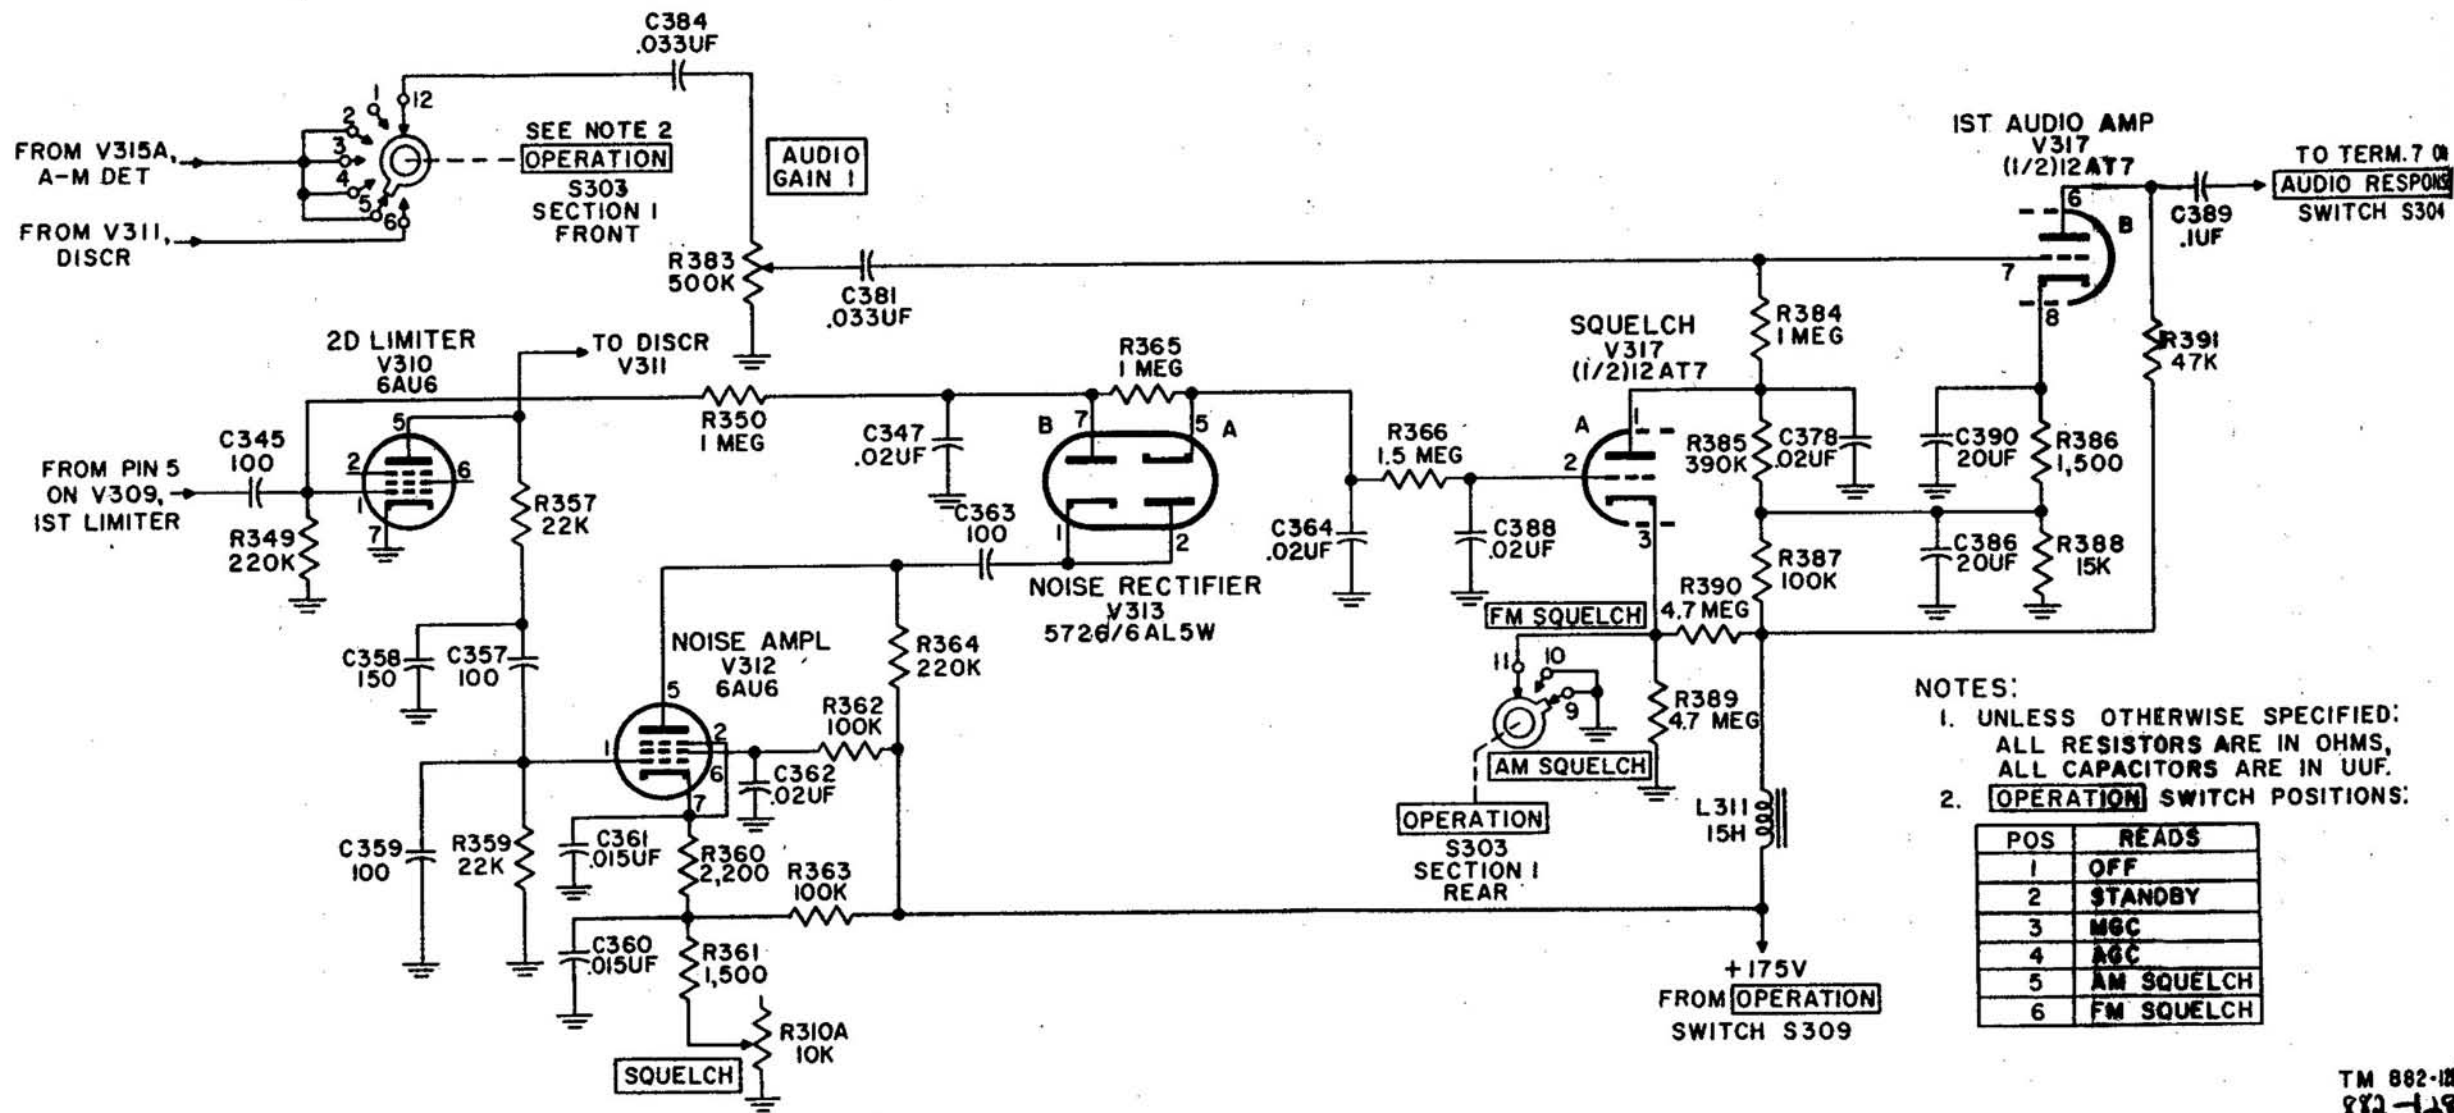

Figure 51. Squelch and first audio amplifier circuits.
(figs. 51 and 52)
*a. General (fig. 51).* The squelch circuit consists of noise amplifier V312, noise rectifier V313, section A of V317, and portions of the grid and plate circuits of second limiter V310. Section B of V317 is the first audio amplifier.
*f. First Audio Amplifier* (figs. 51 and 52).
- (1) The audio signal, fed from the am. detector or the discriminator, reaches first audio amplifier V317B through OPERATION switch S303, section 1, front. The signal is coupled through C384, R383, and C381 to the grid of V317B (fig. 51). AUDIO GAIN 1 control R383 determines the signal amplitude applied to the grid, and the ac voltage is developed across grid return resistor R384. Audio tube V317B operates only when squelch tube V317A is not conducting; that is, when a sufficiently strong signal is being received. The audio tube does not conduct when the squelch tube is conducting; that is, when noise or very weak signals are being received. Thus, noise from inside the receiver is squelched by a control voltage from the squelch tube. This
*g. Application* (fig. 51). When OPERATION switch S303 is in the STANDBY position, S309 is open and plate voltage is removed from the receiver (with the exception of the first hf oscillator). In positions 2, 3, and 4, S309 is closed and the receiver is operating, but the squelch circuit is inoperative due to the high positive bias applied to the cathode of V317A through R390. In position 5 or 6 on the OPERATION switch, the cathode is grounded to restore operation.